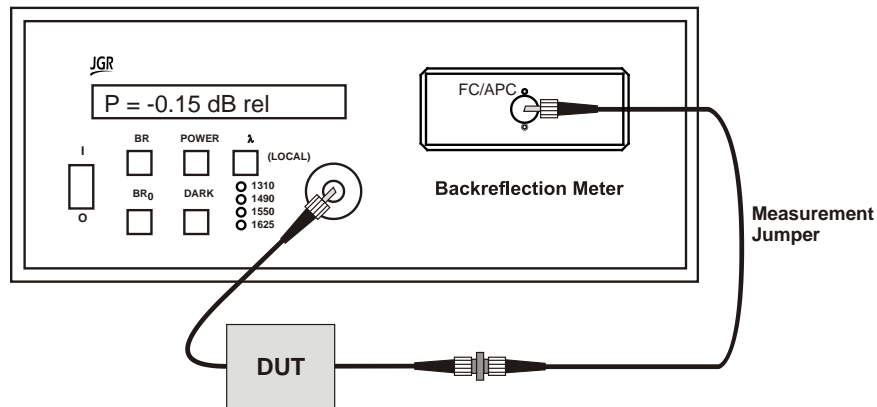

Figure 11: Measuring Relative Power
3. Clean the output connector of the measurement jumper and the input connector of the DUT, and connect the two together. Connect the output connector of the DUT to the detector on the front of the meter. The meter displays the loss due to the DUT (see Figure 11).